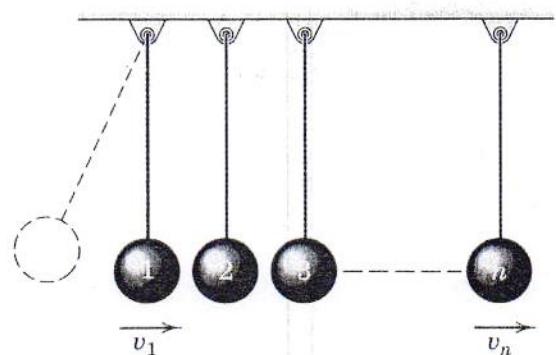

Fig. Q10
10. The Fig. Q10 shows n spheres of equal mass m suspended in a line by wire of equal length so that the spheres are almost touching each other. If sphere 1 is released from the dashed position and strikes sphere 2 with a velocity v_1 , write an expression for the velocity v_n of the n th sphere immediately after being struck by the one adjacent to it. The common coefficient of restitution is e .